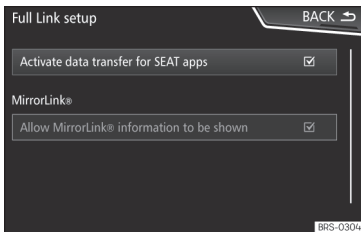

Fig. 187 Full Link Setup
- In the main menu for the Full Link settings, select **Activate data transfer for SEAT apps** »» Fig. 187.